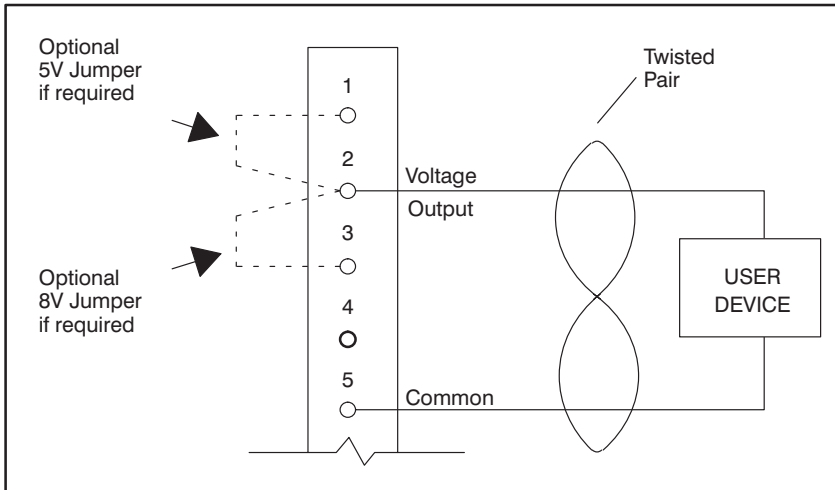

Figure 3.1 - Typical Field Connections for Voltage Output
- Figure 3.1 - Typical Field Connections for Voltage Output ..... 3-2
- Step 3. Fasten field wires to the terminal strip. Typical field connections for voltage output and for 4-20 ma current output are shown in figures 3.1 and 3.2, respectively.
Confirm that all connections at the terminal strip are tight. Verify that each of the analog output channels is wired to the correct device and that the jumpers on the terminal strip (if required) are connected. Refer to figures 3.1 and 3.2.